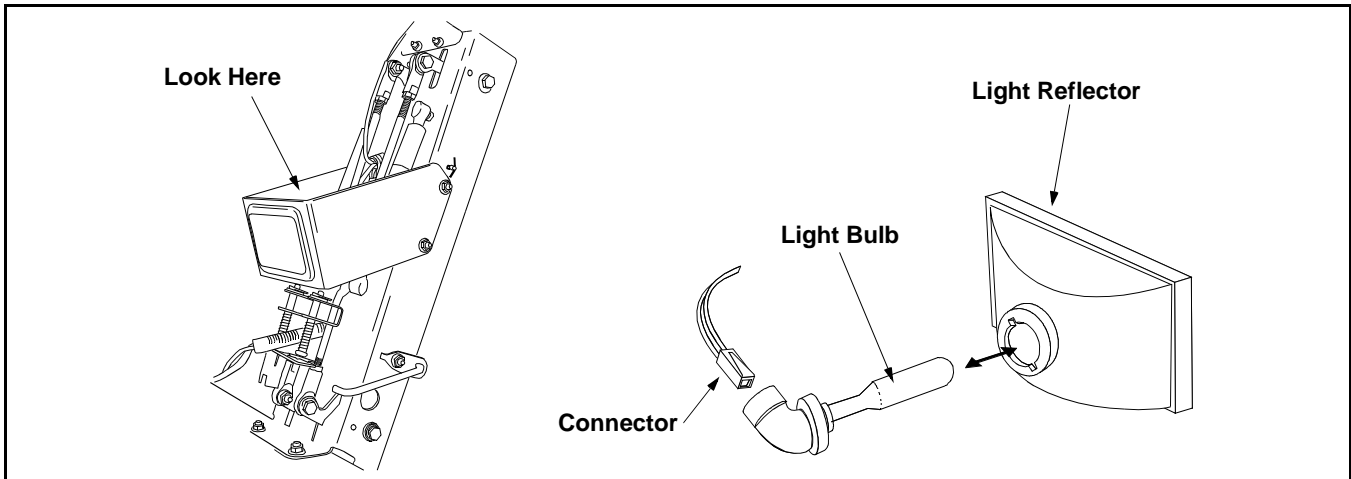

Figure 18
8. Locate the rear of the light fixture where the wire attaches. (See Figure 18)